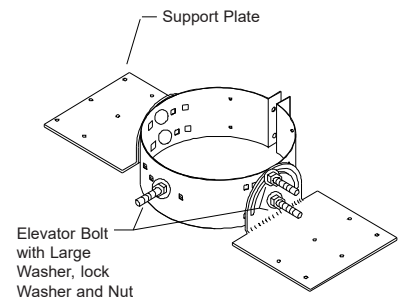

Figure 51
3. Attach the Support Plates to the band with elevator bolts, washers and nuts (2 sets per plate). The bolts should pass through the holes in the band corresponding to the pipe outside diameter and be secured loosely (see Figure 51). NOTE: 2 sets per Support Plate.
7. Center the assembly in the opening. Adjust Plates to the pitch of the roof and tighten the nuts (see Figures 51 & 52).